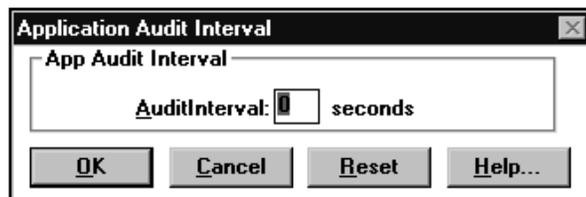

FIGURE 96. Example of Application Audit Interval dialog box
1. To set the number of seconds between each Application Audit message sent to the CCDB, select App Audit Interval in the configuration window. (See Figure 96.)